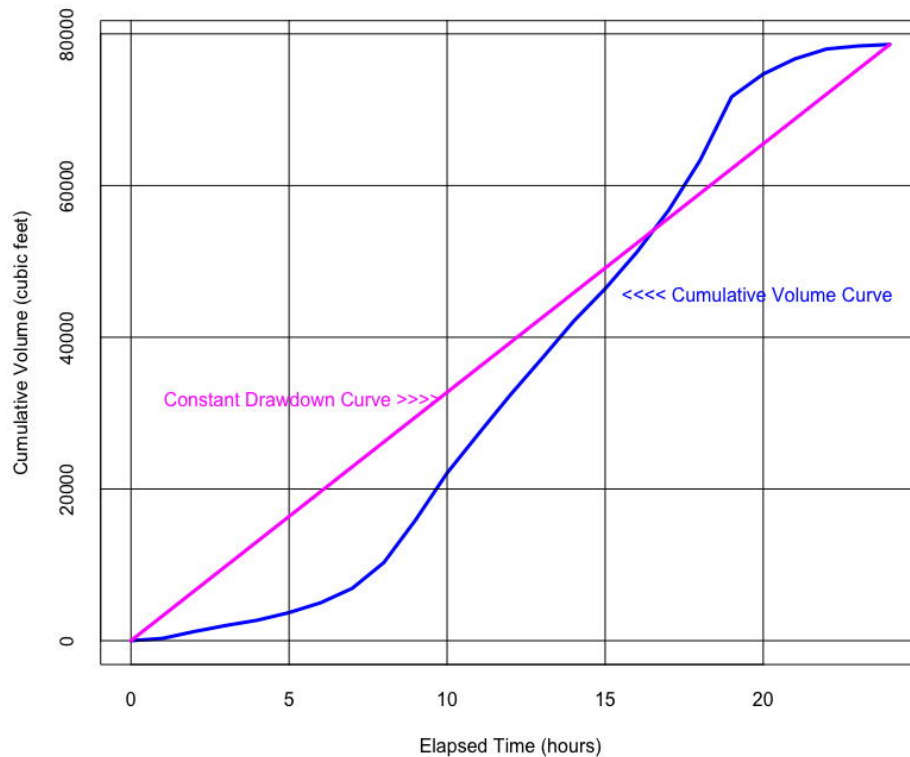

Figure 4: Variable and Constant Draft Curve for Flow Equalization
Figure 4 is a plot of variable cumulative inflow volume versus time for a location and the equivalent constant rate inflow for the same location. Table 1 is a list of time and cumulative volume inflow (same as the graph). A flow-equalization storage tank volume is to be determined.
28. The cumulative volume of inflow (or draft) every 24 hours indicated by Figure 4 and/or Table 1 is
29. The flow rate (cubic feet per hour) indicated by the constant drawdown curve indicated by Figure 4 and/or Table 1 is
30. The largest maximum absolute deviation between the constant drawdown line and the variable inflow curve indicated by Figure 4 and/or Table 1 is:
31. The second largest maximum absolute deviation between the constant drawdown line and the variable inflow curve indicated by Figure 4 and/or Table 1 is:
32. The recommended flow equalization storage volume indicated by Figure 4 and/or Table 1 is: